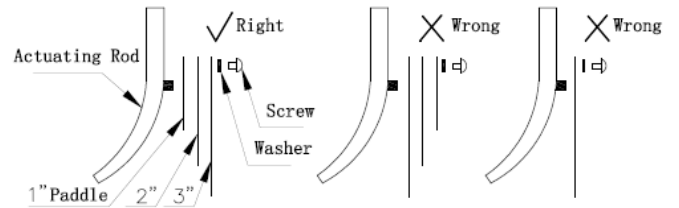

Figure 3 Paddle Installation Example
**Example, if 3" pipe is used, Install 1" ,2" and 3" segments (see figure 3), if 1-1/2 pipe is used, trim the 2" paddle to the pipe size or use the 1" paddle segment.**